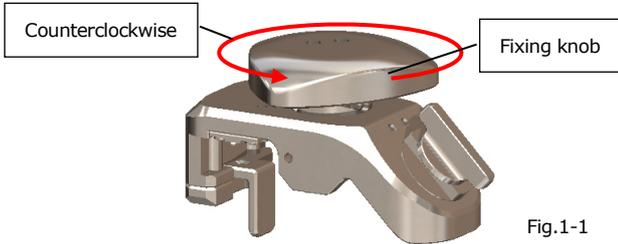

Fig.1-1
- Install and operate the Retractor Slide Adjustor II according to the following steps (Fig.1-1 to Fig.5-2).
(1) Installation of the Retractor Slide Adjustor II.
(1)-1 Rotate the fixing knob counterclockwise and stop the operation when you feel resistance (Fig.1-1).